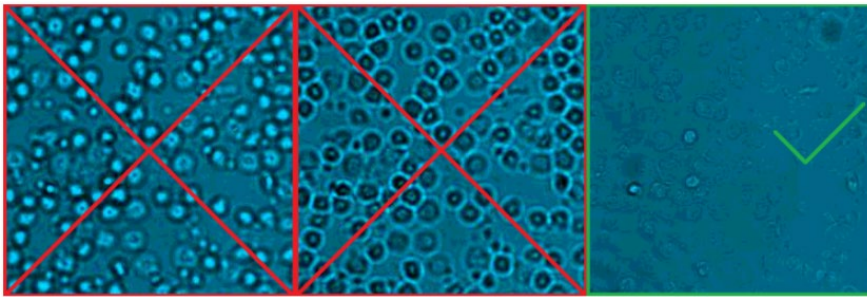

Fig. 3 | Focus examples
3. Concentrating on the top left corner of the ScanApp view, use the fine focus drive to focus the cell layer. (Fig. 3)